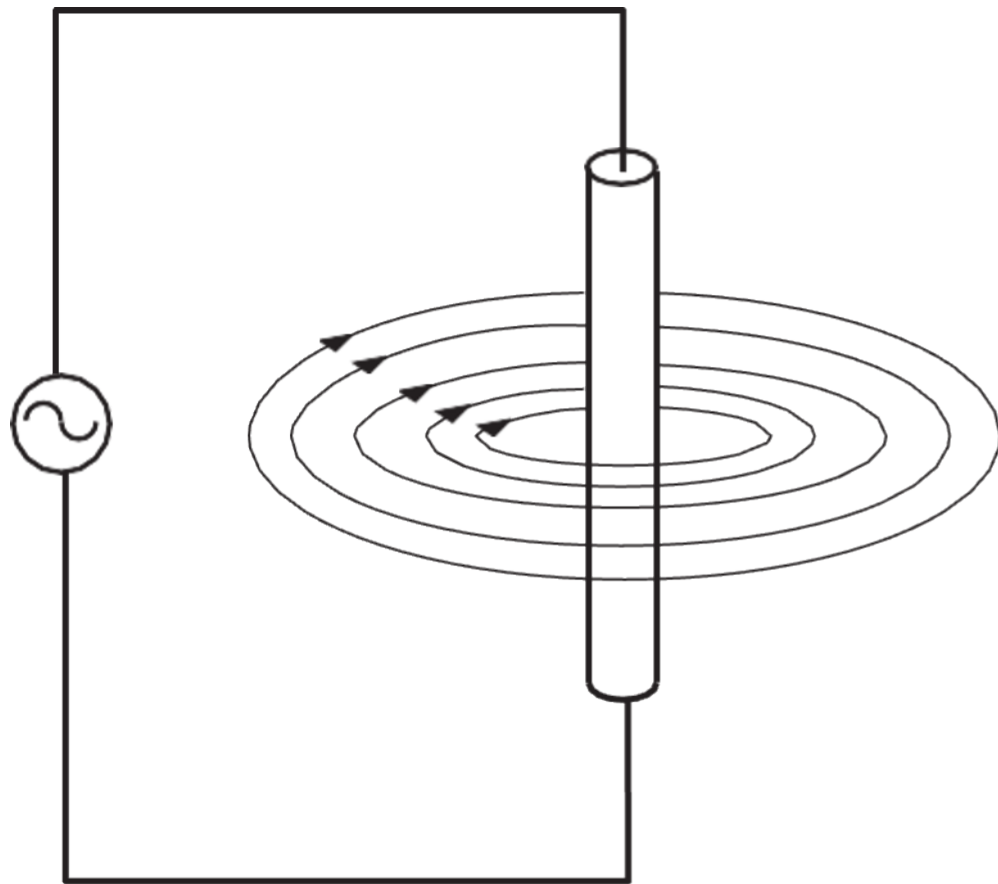

Figure 29 Magnetic field produced by current flow through a conductor (BC Industry Training Authority, 2019). CC BY-NC-SA 4.0
- When electric current flows through a conductor, it creates a magnetic field (Figure 29).